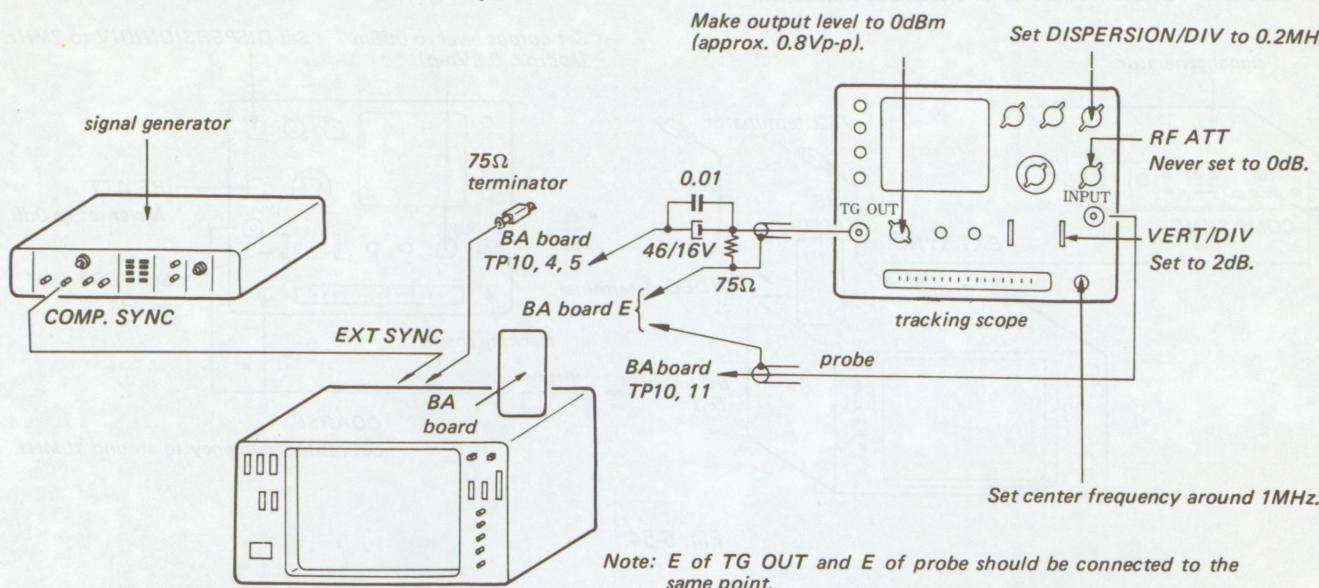

Fig. 5-45
1. Complete the connections as shown in Fig. 5-45.
2. Connect the TG OUT of the tracking scope to TP 10 on the BA board via a capacitor and the probe also to TP 10. (See Fig. 5-45.)